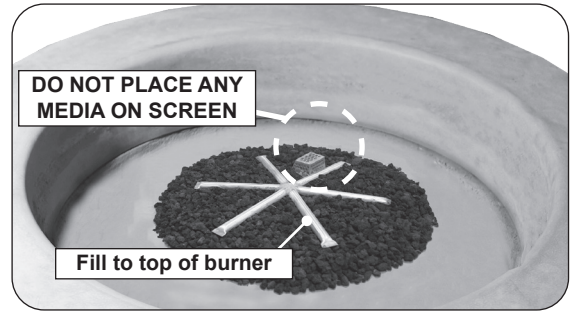
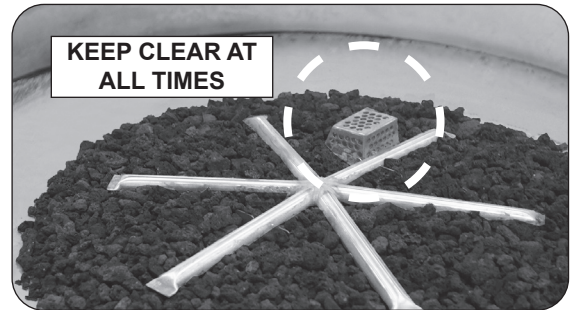

Fig. 33-1 Place lava granules
Fig. 33-2 Screen detail
1. Pour the 10 lb bag of lava granules into the burner area (with the exception of the screen). Spread the granules within the burner area as shown in Fig. 33-1 and Fig. 33-2. **Only fill the granules up to the top of the burner tube.**